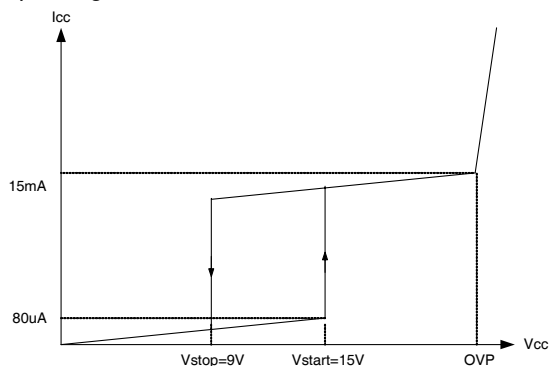

Figure 22. High Voltage Current Source
1. Start up: To guarantee stable operation of the control IC, FS8S0765RCB has UVLO circuit with 6V hysteresis band. Figure 22 shows the relation between the supply current (I_{CC}) and the supply voltage (V_{CC}). Before V_{CC} reaches 15V, the FPS consumes only startup current of 80mA, which is usually provided by the DC link through the start-up resistor. When V_{CC} reaches 15V, the FPS begins operation and the operating current increases to 15mA as shown. Once the control IC starts operation, it continues normal operation until V_{CC} goes below the stop voltage of 9V.